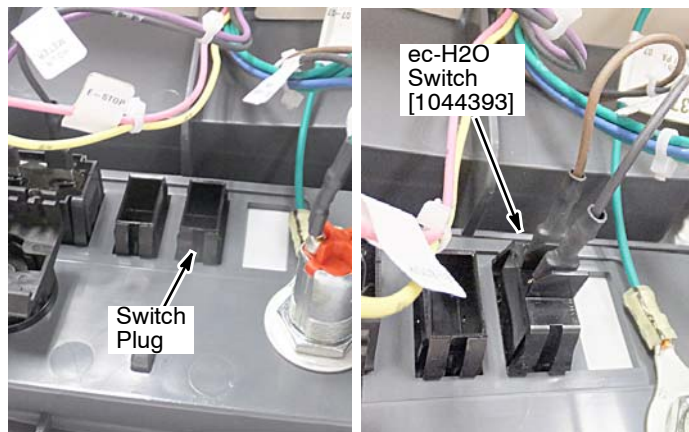

Fig. 14
- Remove the switch plug from console and install the ec-H2O switch in the orientation as shown. Connect the factory installed wires, black/2 and brown/13Y, to switch as shown (Figure 14).